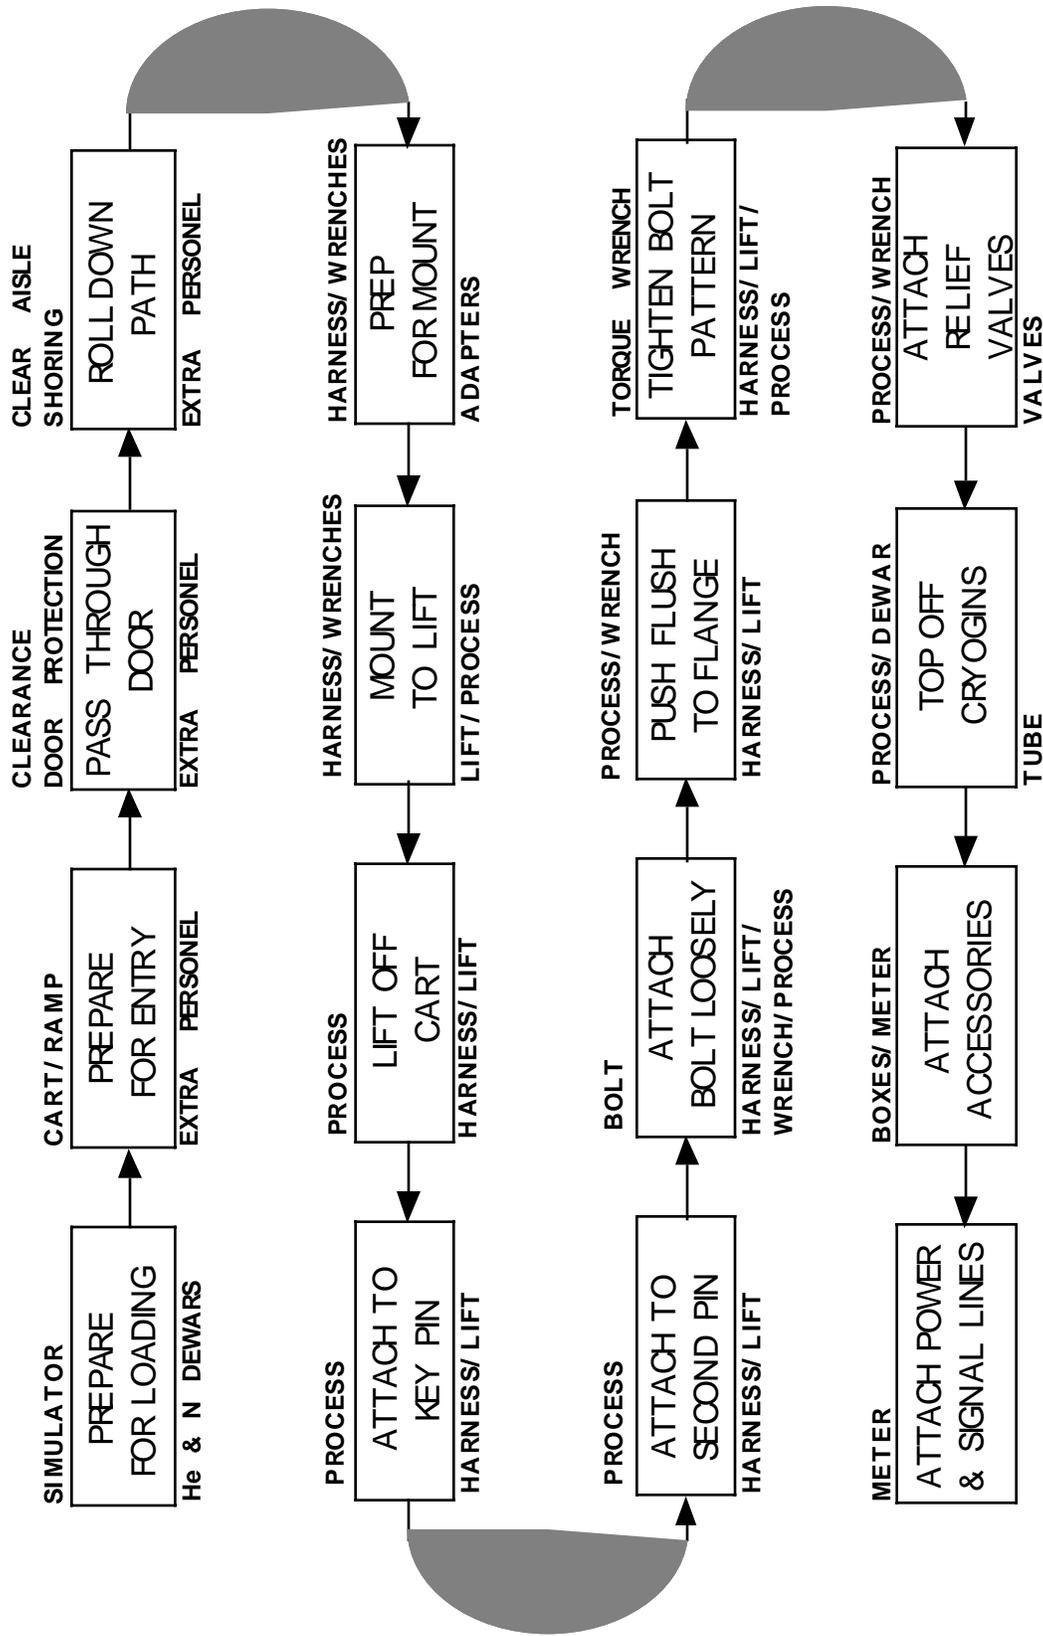

FIGURE 302 - KEY CHARACTERISTICS
- (2) Science Acquisition.
- (3) Schedule.
C. Put in the important parameters. Determine the things that affect the key characteristics. (Refer to Figure 302)
- (1) Take nothing for granted. Once again it is easier to remove a step later than to try and insert a forgotten step.
- (2) If a step is forgotten go back and insert it.
- (3) If unfamiliar with a process get information from someone who has accomplished the task. Ask them about tools and things they would improve.